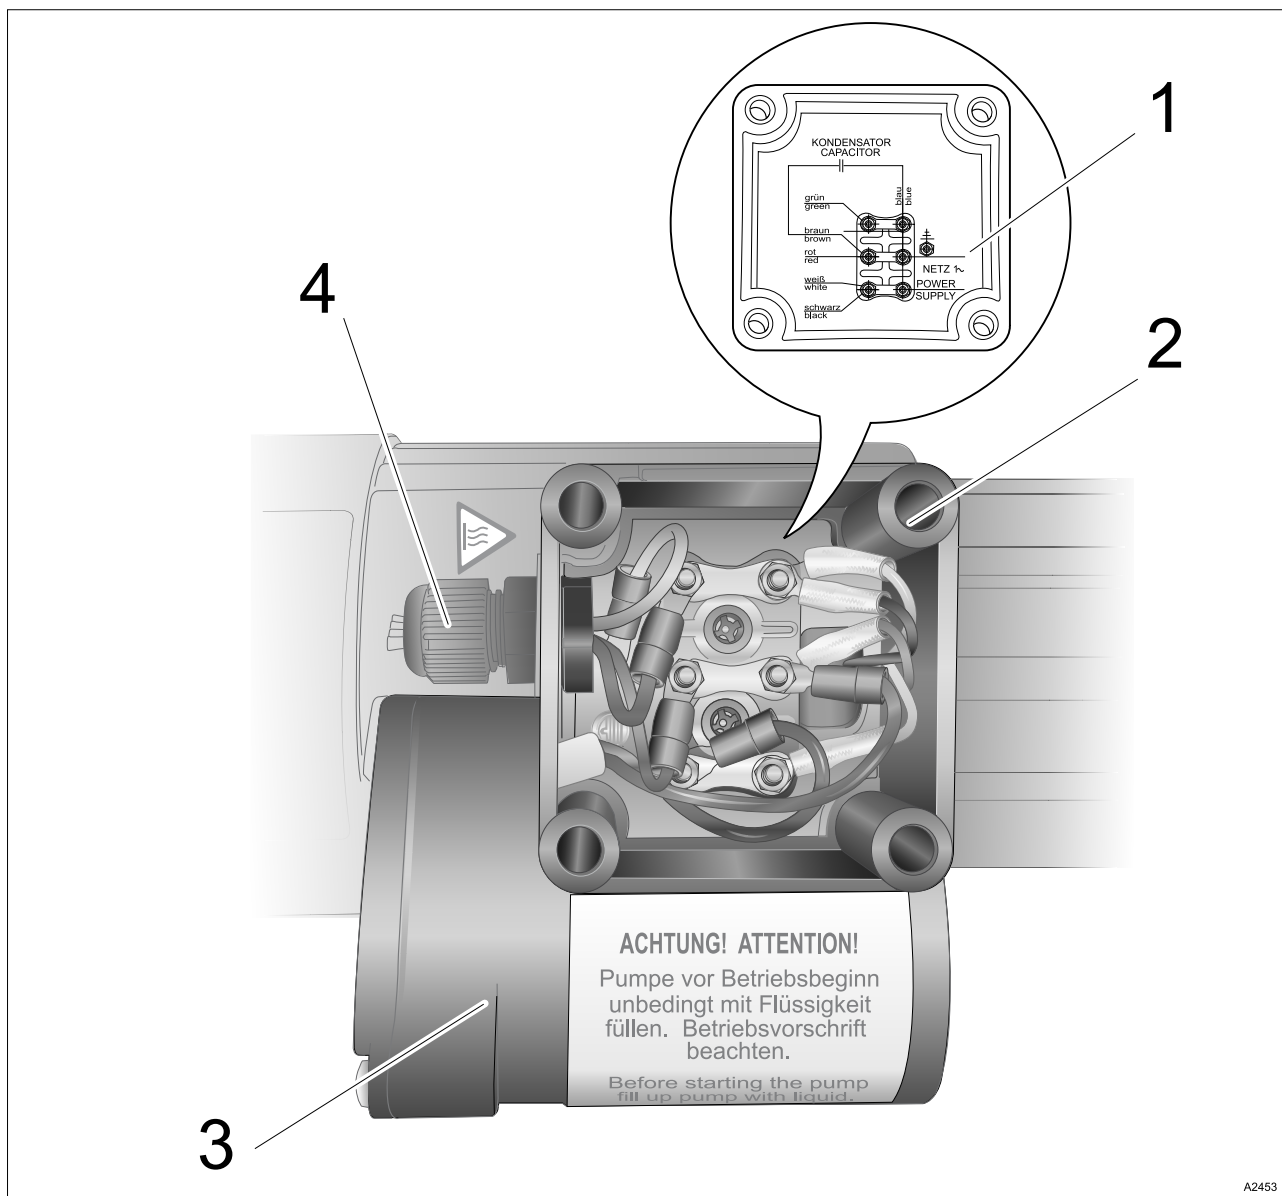

Fig. 7: Cover of the terminal box with connection diagram
1. ➤ Connect the three-phase motors, as shown on the diagram in Fig. 7.